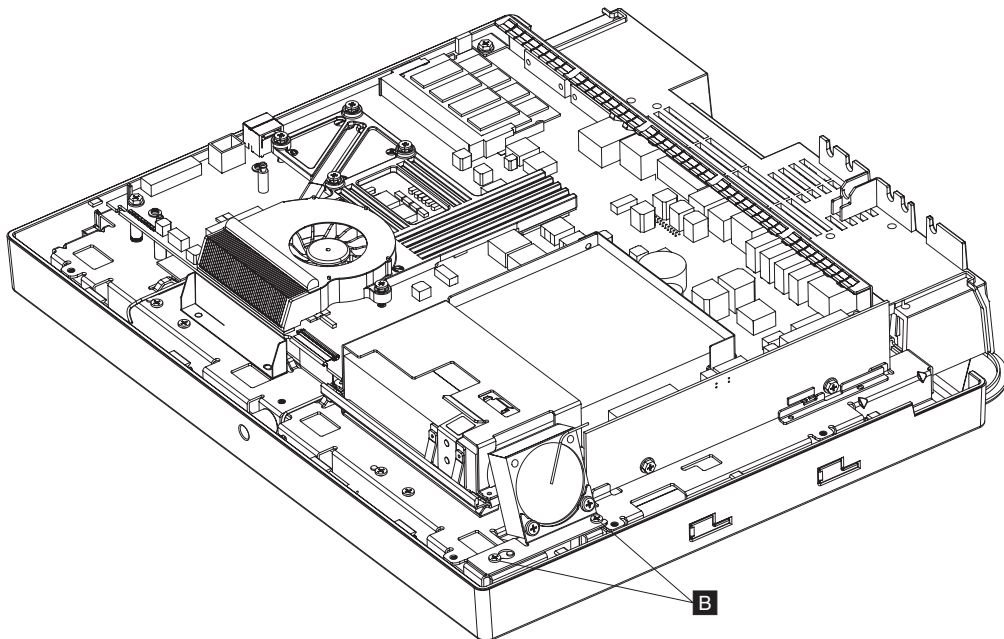

Figure 23. Removing the HDD fan assembly
5. Loosen the two fan bracket screws a few turns (**B** in Figure 23) and pull the connector wires from beneath the system board.